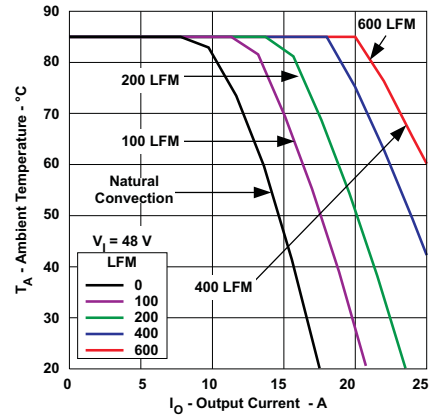

Figure 3.
- (2) The temperature derating curves represent operating conditions at which internal components are at or below manufacturer's maximum rated operating temperature. Derating limits apply to modules soldered directly to a 100-mm x 100-mm, double-sided PCB with 2 oz. copper. For surface mount packages, multiple vias (plated through holes) are required to add thermal paths around the power pins. Please refer to the mechanical specification for more information. Applies to Figure 3.